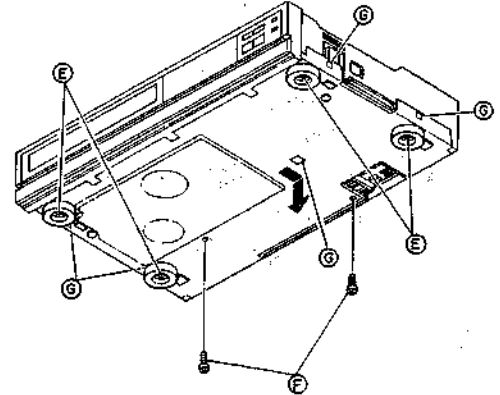

Fig. 1-1-3
2. Refer to Fig. 1-1-3 and take out 4 screws (E) and 2 screws (F) from the bottom of the chassis.
3. Disengage the bottom cover from 5 claws (G) on the bottom of the chassis.